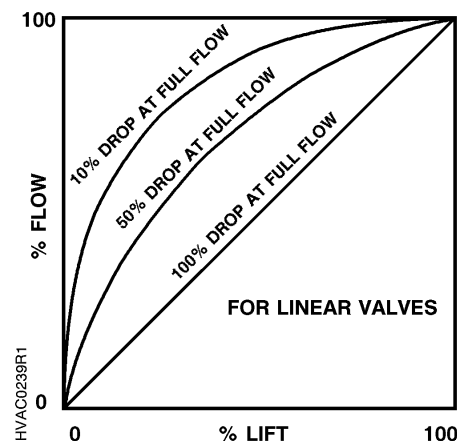

Figure 1.
**Figure 1** shows flow-lift curves for a linear valve with various percentages of design pressure drop. Note the improved characteristic as pressure drop approaches 100% of system pressure drop at full flow.
It is important to realize that the flow characteristic for any particular valve, such as the linear characteristic shown in Figure 1 is applicable only if the pressure drop remains nearly constant across the valve for full stem travel. In most systems, however, it is impractical to take 100% of the system drop across the valve.